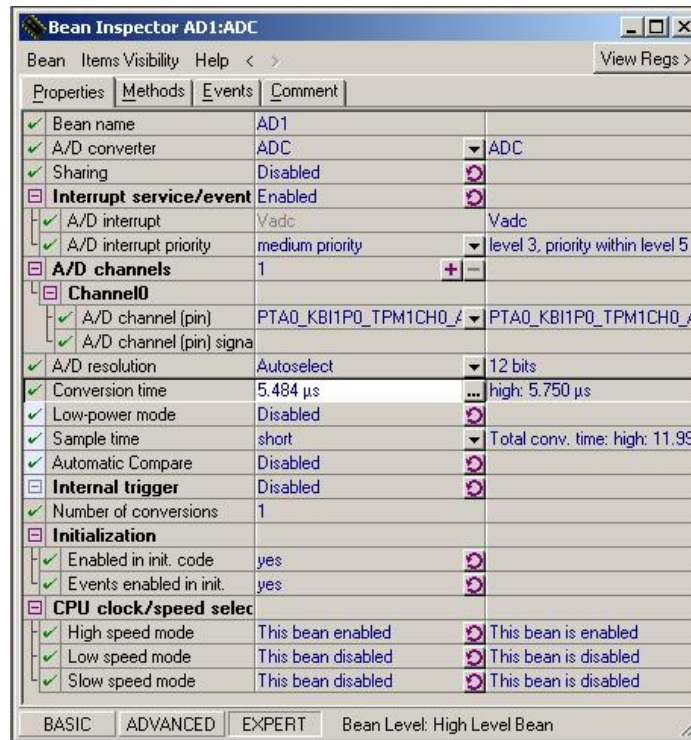

Figure 40. Bean Inspector Window - ADC Configuration on PWM Lab Project
3. Once the ADC bean is displayed on the left panel in the Processor Expert tab, in the Beans folder (Figure 40).
Figure 40 shows the Bean Inspector window for the ADC Bean with the properties values of the PWM_Lab project.